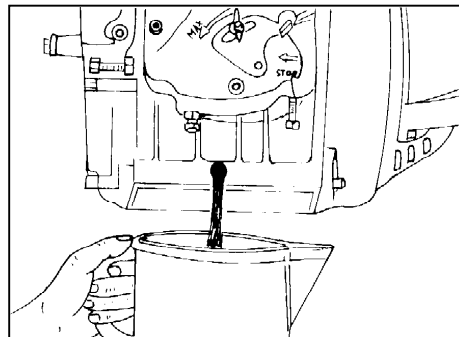

Figure 4
- ❖ When the engine is warm, empty oil pan and fill with standard new oil. See figure 4.